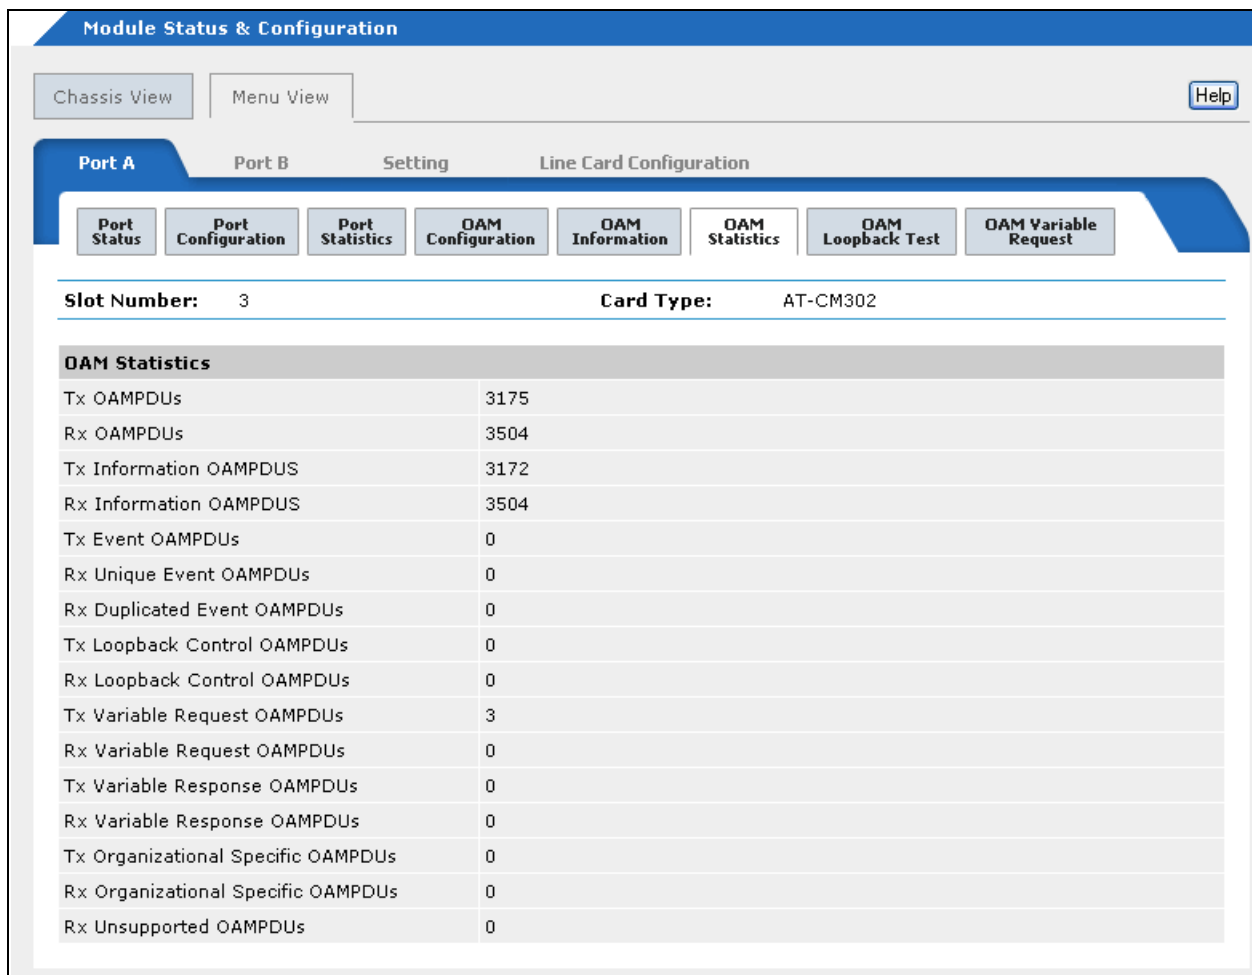

Figure 117. OAM Statistics Tab\*
4. Click the **OAM Statistics** tab to display the window in Figure 117.